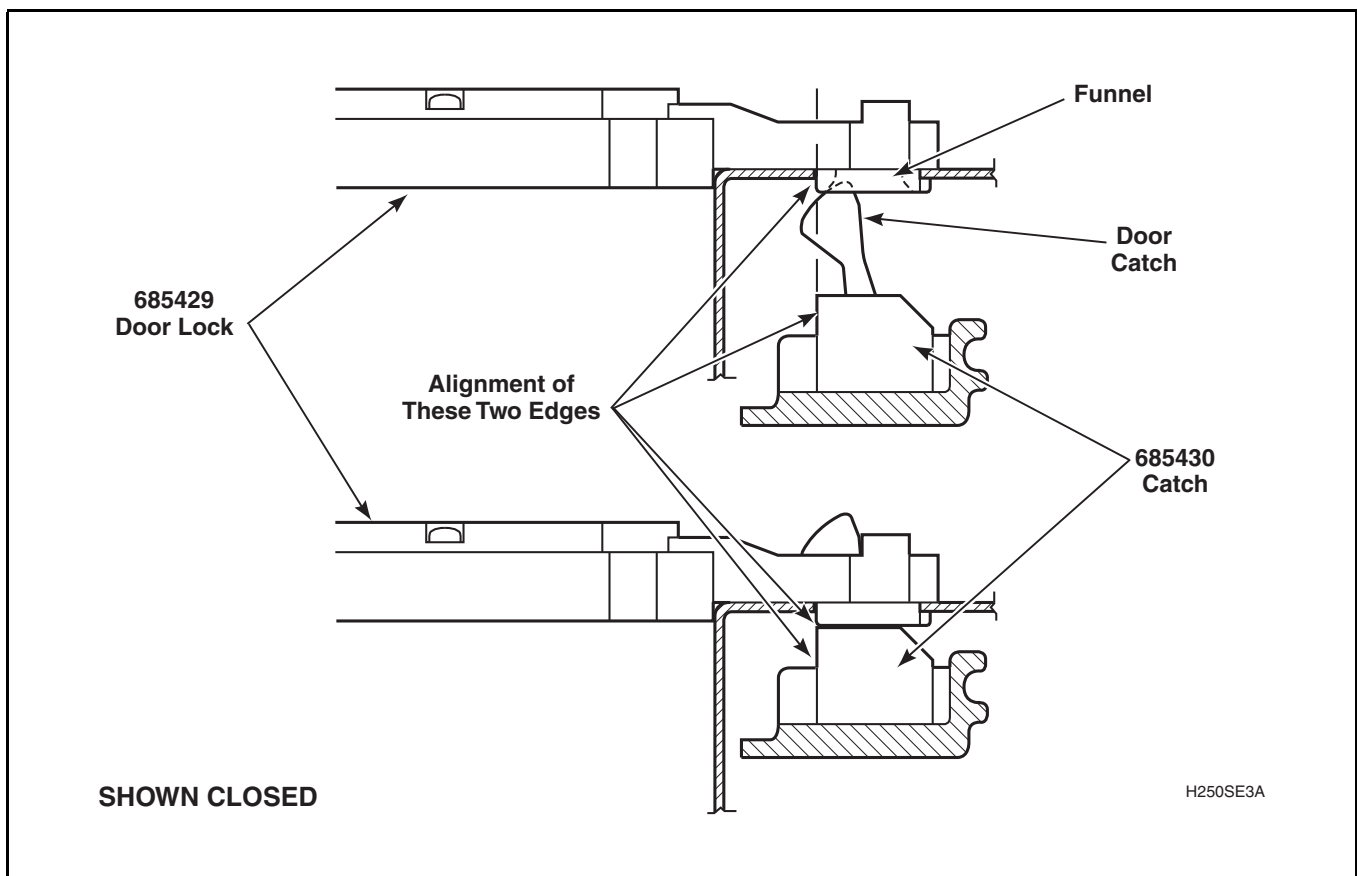

Figure 55
- Adjust door catch so the outside edge is aligned with the edge of the latch. Refer to *Figure 55*.
- Visually check that the door catch properly engages the funnel of the door latch/switch assembly. Refer to *Figure 55*.